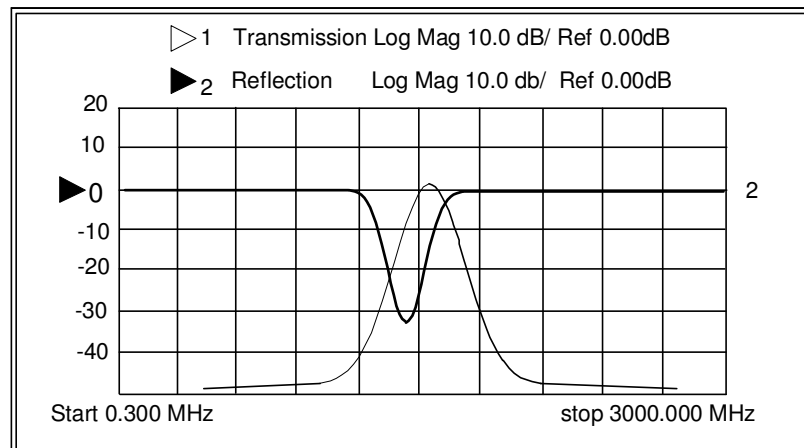
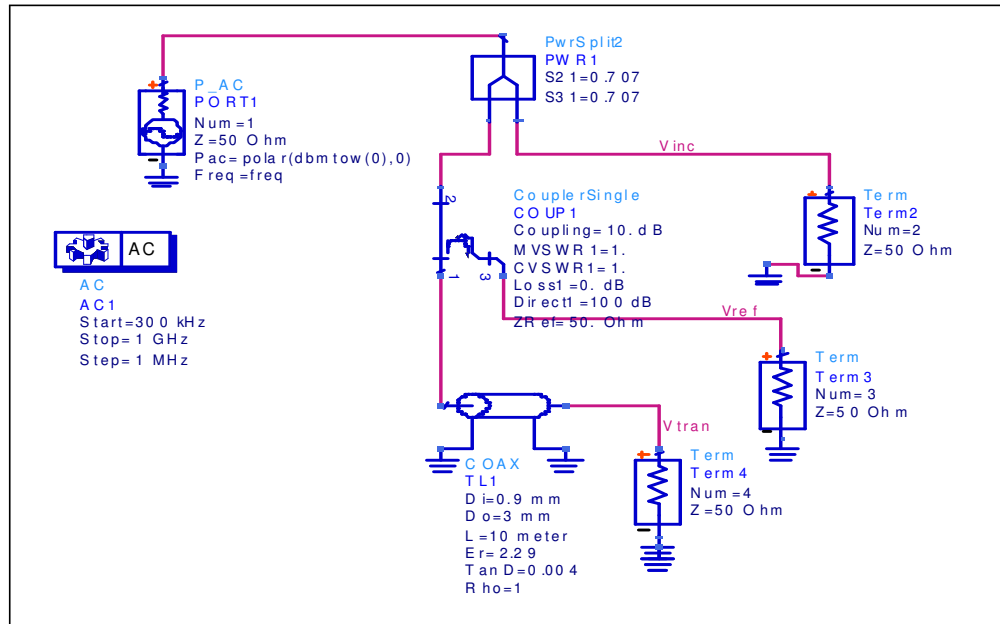

Figure 3 - Two channel active
Figure 6 - Simulation of a coaxial cable connected to a network analyzer.
1. Draw a network analyzer, using the ADS software and a bank of components (see Figure 3 of theory part and Figure 6 of experiment part).
4. Connect a coaxial cable to your simulation of a network analyzer, terminated with a  $50\Omega$  load, as indicated in Figure 6.